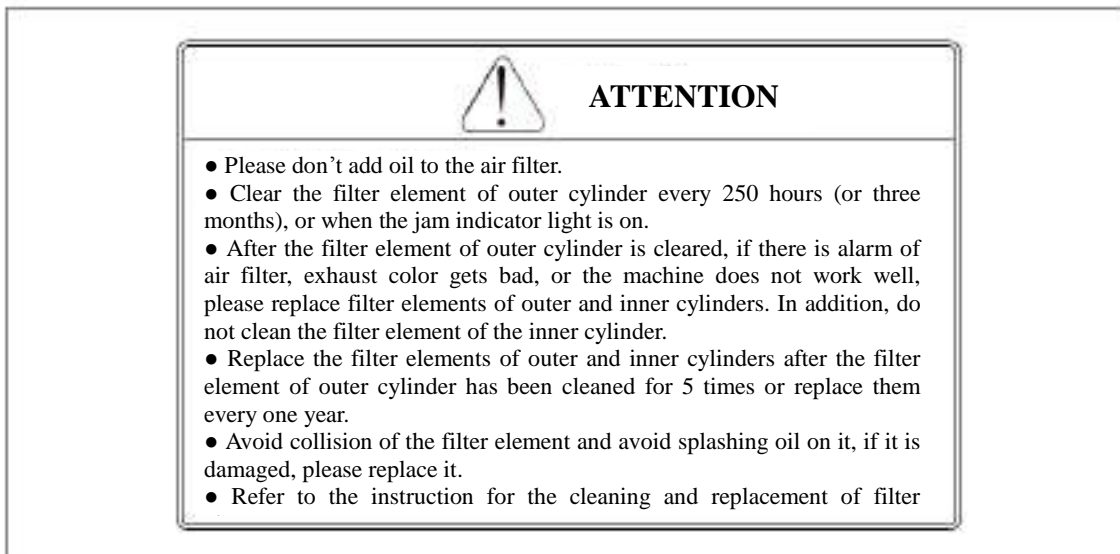

Figure 1-23 Maintenance of the air filter
(22) Sign for Maintenance of the air filter, as shown in Figure 1-23.